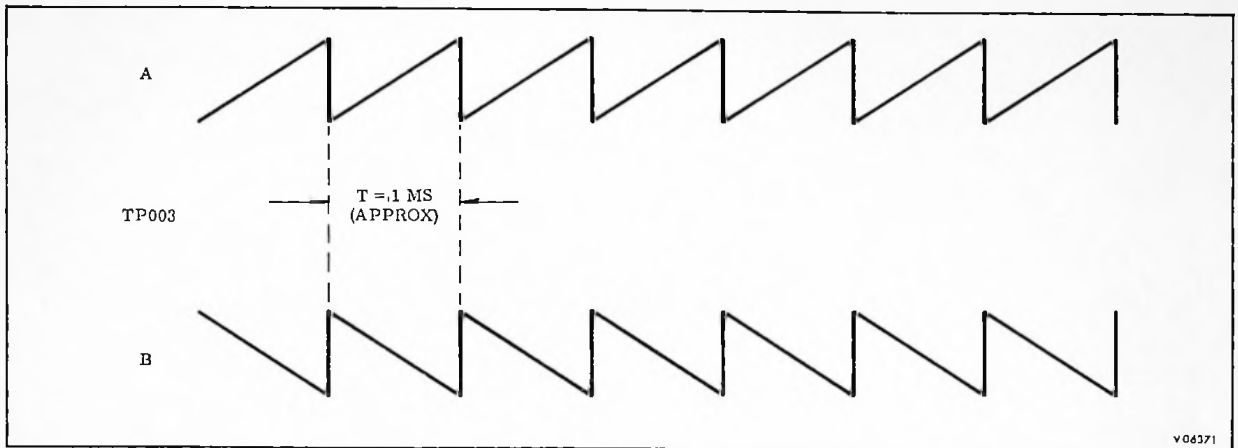

Figure 5.2-13. Waveform for Amtec DC Level and Gain Adjustment
- c. Adjust velocity-compensator R36 (board 8) to 0V difference. The waveform should resemble A or B of Figure 5.2-13.
- d. Rotate R35 (board 8) from one stop to the other. Waveforms similar to those shown in Figure 5.2-13 should be seen, with $T = 63.5$ Usec.